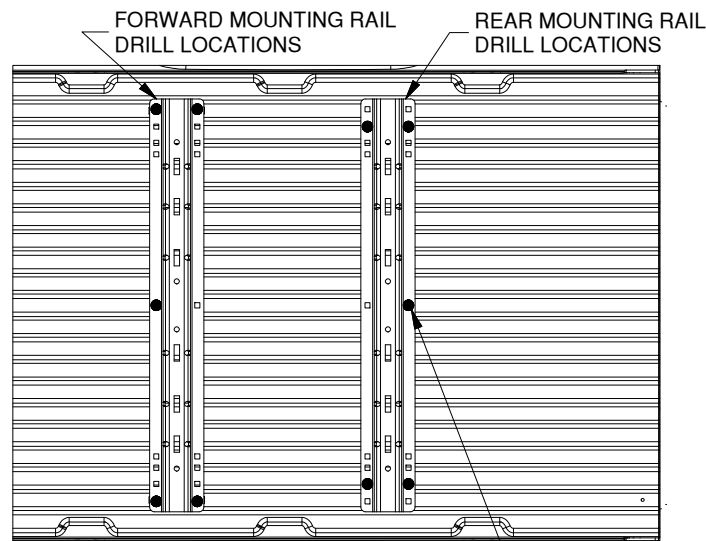

Figure B2: Detail view over bed, showing drill locations for the forward and rear bed rails.
2. **Mark hole locations.** While carefully ensuring the mounting rail does not move, use a center punch tool to mark the 5 drill locations on the rear rail. See Figure B2 for hole marking locations for this installation (forward rails will install on a later step). Once all 5 rear rail locations are clearly marked, move the bed rail out of the way and drill each location with an 1/8" drill.
4. **Drill forward mounting holes.** Using the same methods as used for the rear mounting rail, mark, drill, check, and enlarge the holes for the forward mounting rail. Start at "DRILL REAR MOUNTING HOLES" section, Step 2, on a previous page. Notice that the hole locations are slightly different than the rear rail, see Figure B2 (on the second page).